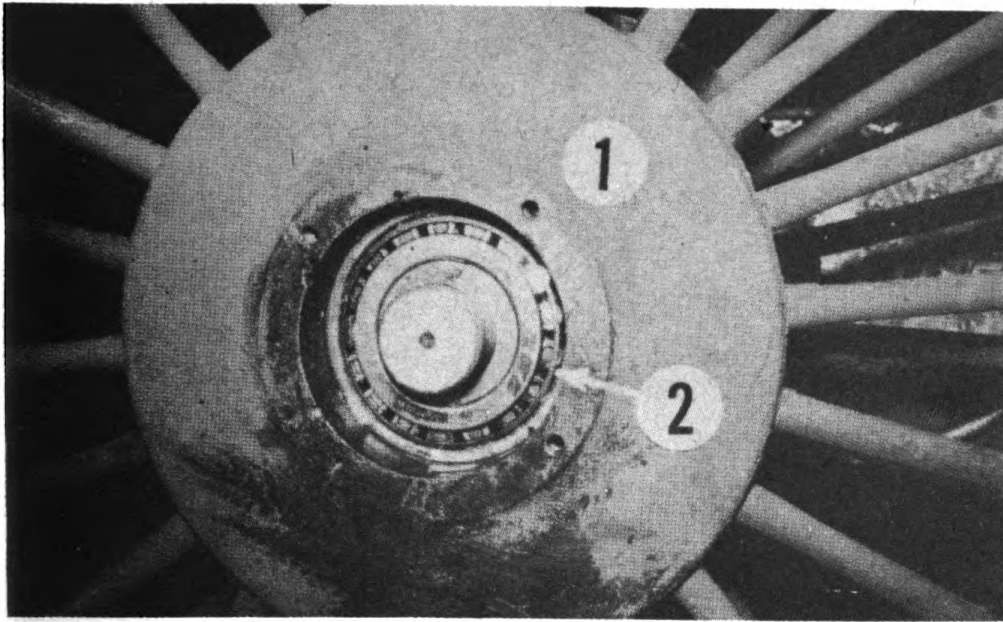

Figure 10. TIMKEN NUT AND WASHER REMOVED
3. Put wheel hub (1) with Timken cups in place on axle spindle and slip in outer Timken cone with rollers (2). See Figure 10.